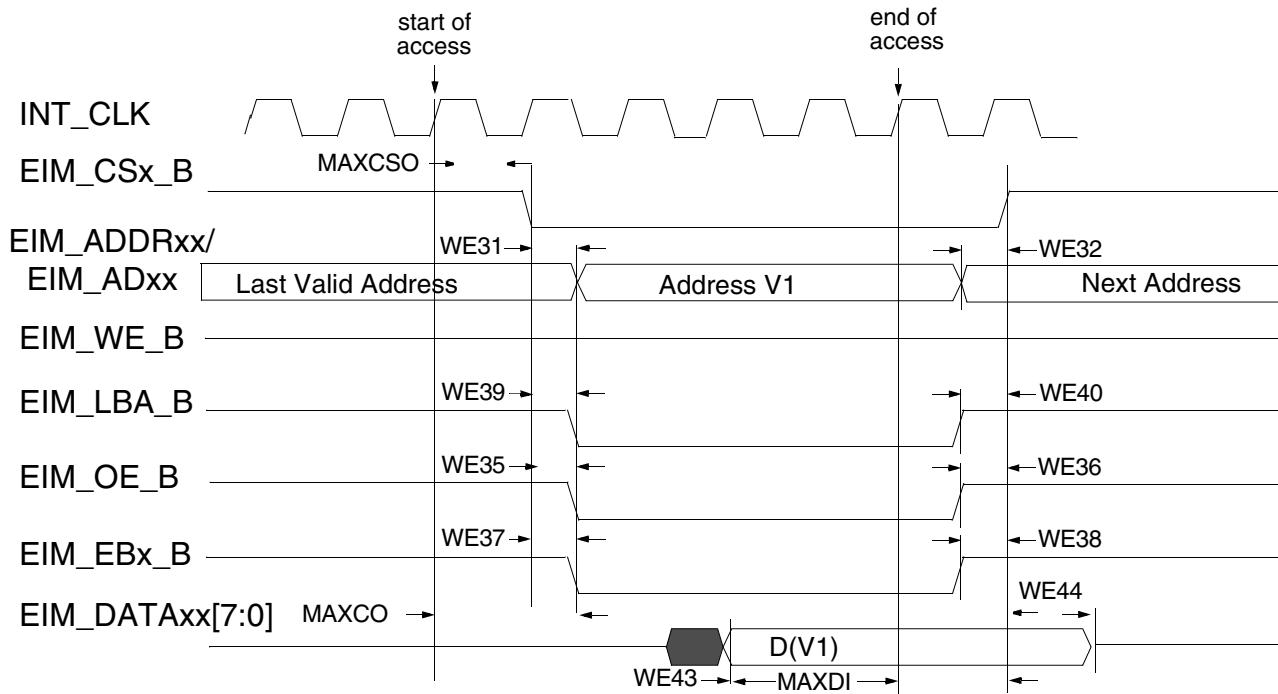
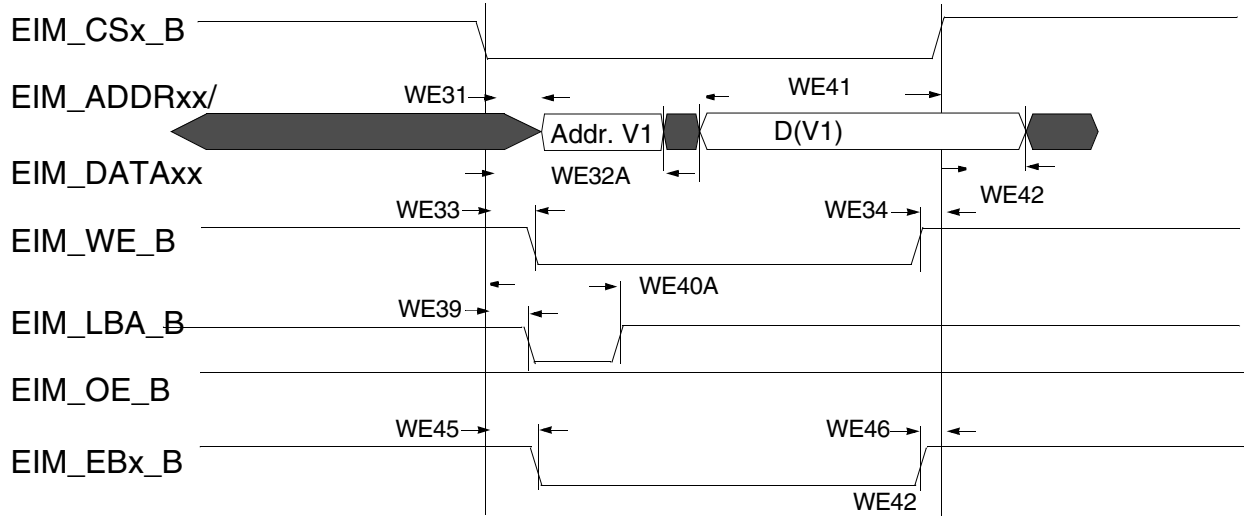
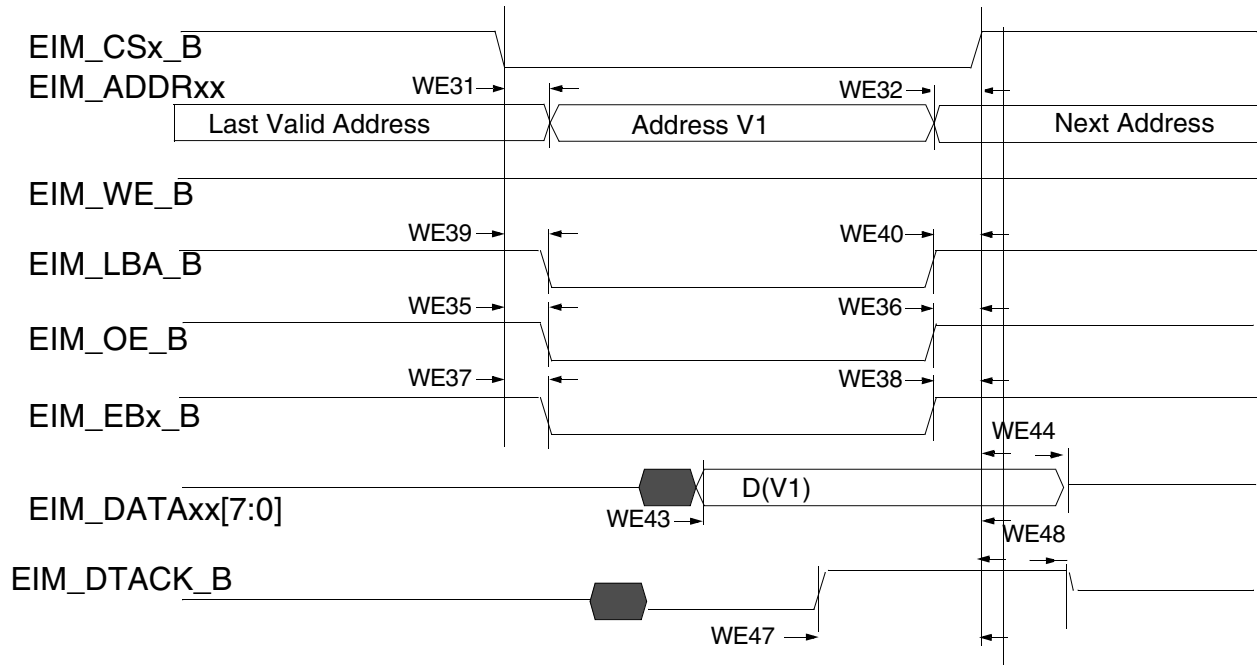

Figure 18. Asynchronous memory read access (RWSC = 5)
Figure 21. Asynchronous A/D muxed write access
Figure 22. DTACK mode read access (DAP=0)
Figure 18 through Figure 22, and Table 46 help you determine timing parameters relative to the chip select (CS) state for asynchronous and DTACK EIM accesses with corresponding EIM bit fields and the timing parameters mentioned above.
Asynchronous read & write access length in cycles may vary from what is shown in Figure 18 through Figure 21 as RWSC, OEN and CSN is configured differently. See the *i.MX 7Dual Application Processor Reference Manual* (IMX7DRM) for the EIM programming model.